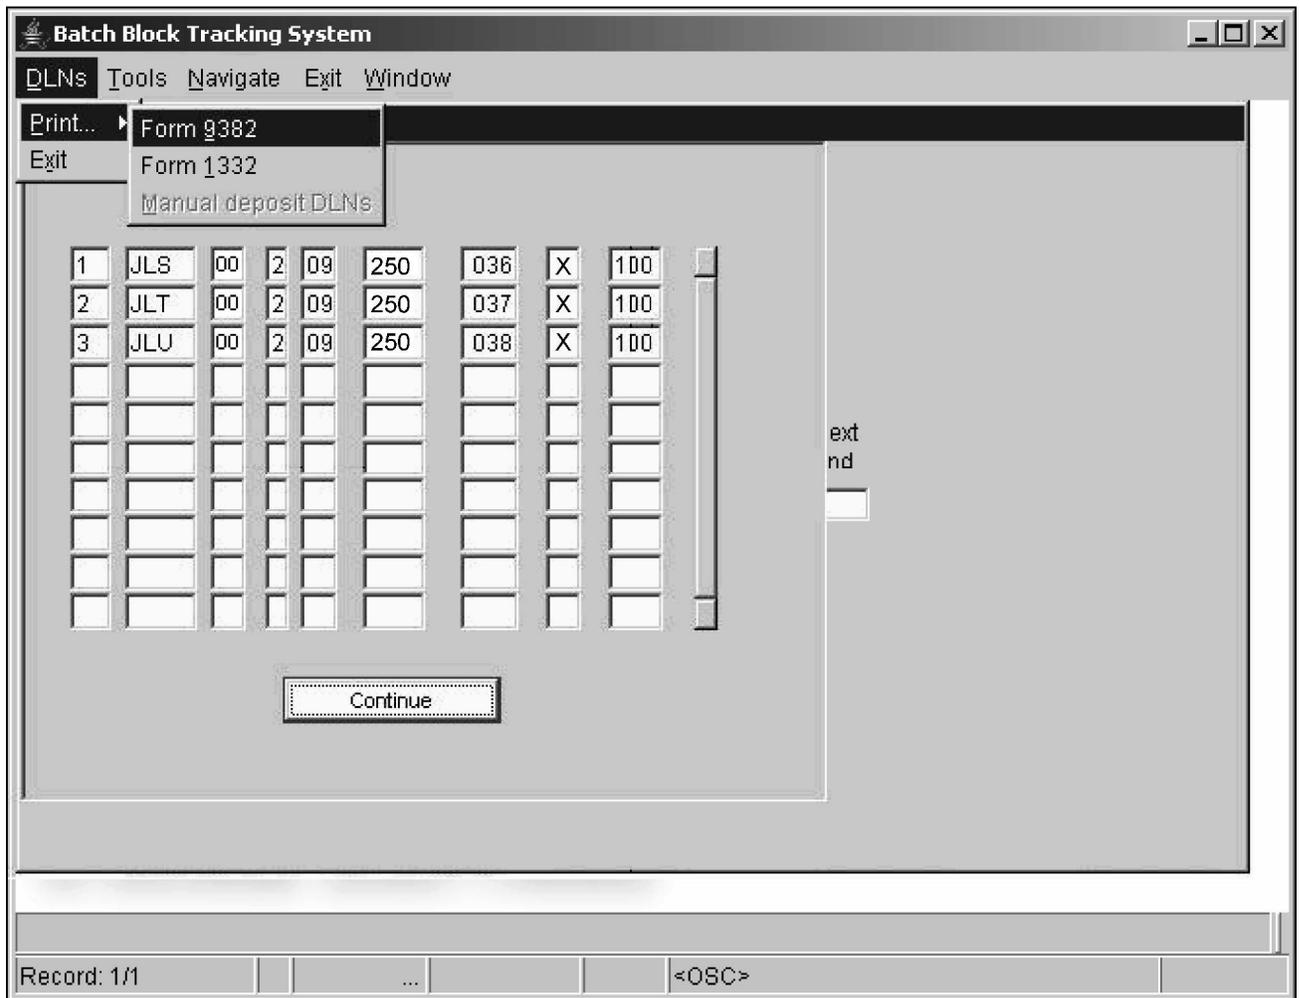

Figure 3.10.5-46 Navigating to print Form 9382
- (1) After completing the instructions in IRM 3.10.5.6.1, click on “DLNs” located on the Menu Toolbar.
- (2) Select “Print” select Form 9382. **See Figure 3.10.5-46**